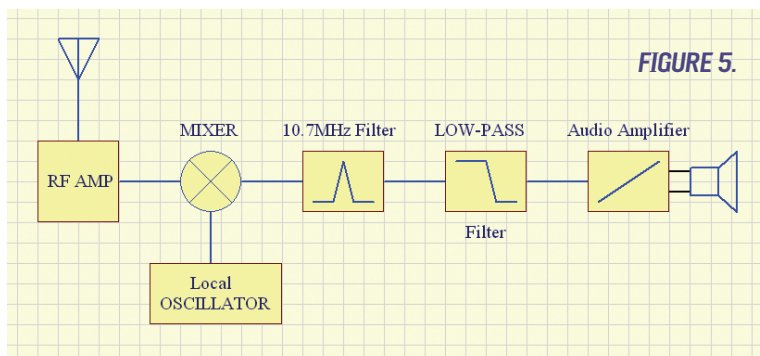

FIGURE 5.
■ **FIGURE 5. Careful removal of a viewfinder glass allowed me to mount an LED inside the camera and use the existing optics as an updated light pipe.**
I mounted all of the electronics to an acrylic sheet using 4-40 hardware, standoffs, and hot glue. I then mounted that entire assembly in the box with the same hardware and standoffs (**Figure 5**). This backplane construction makes for easy removal/servicing and fewer holes in the box. Finally, I drilled a large hole for the mains plug and power switch plug to exit through, and concealed the space with more felt.
for instance, that you want to listen to 100.5 MHz on the FM dial (refer to **Figure 5**). Without knowing it, you are actually tuning the local oscillator to 89.8 MHz ... the reason will be explained later.